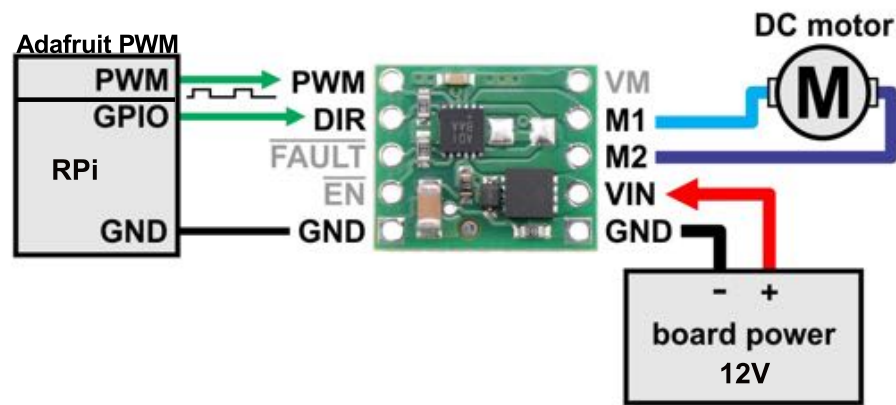

Figure 16: The Motor Driver board and PWM interface diagram. From <https://www.pololu.com/product/2961>
The motor drivers are responsible for controlling the amount of power delivered to the motors, as well as which direction they spin. The MAX14870 (Maxim Integrated Co.) accepts a number of different inputs but our application only uses four: the PWM input, the direction input and power and ground for the motor (figure 16). The PWM comes from the Adafruit PWM driver, while the direction control comes from one of the pins (GPIO) on the RPi. When the joystick is moved from the dead zone³, a value proportional to the displacement of the joystick is generated. Since the PWM has 12 bits of resolution (meaning it has 4096 (2^{12}) levels from off to on), numbers from 0 to 4095 represent the levels from fully off (0) to fully on (4095). For instance, if the gamepad joystick is moved halfway between the center position and fully engaged, the value from the joystick will be 2048, and the pulse width proportion will be 50%, or half power. This pulse waveform goes into the MAX14870 where the H-bridge⁴ pulses 'on' half the time and 'off' half the time, creating the effect of half power. You most likely performed this exact same technique when driving your SeaPerch for the first time, essentially toggling the switches back and forth (pulsing) to change the speed of the vehicle to gain a bit more fine control.